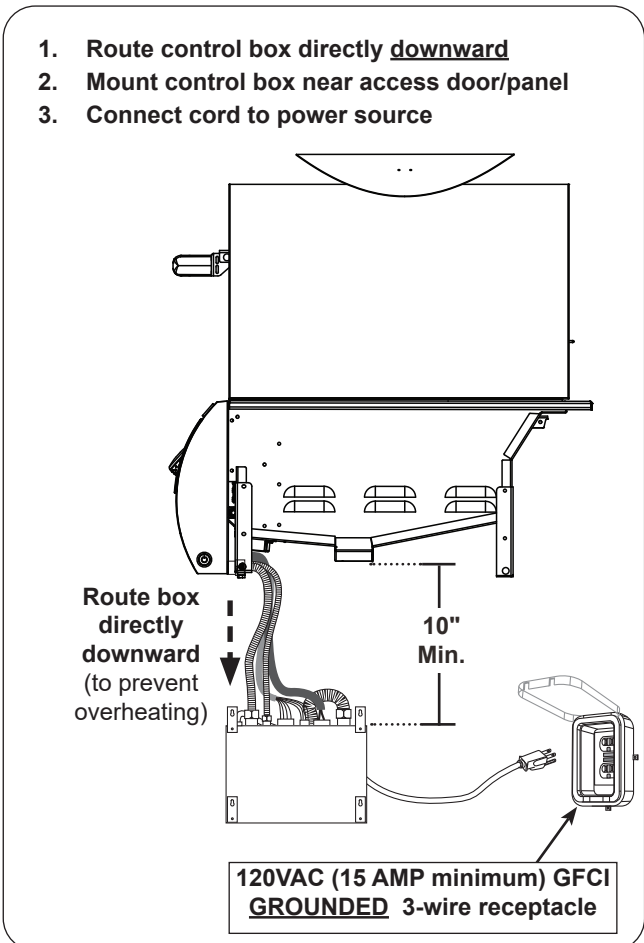

Fig. 27-1 Control box installation - overview
1. Route the control box below the control panel and directly downward. This will prevent overheating. **DO NOT** route the connections below the unit. See Fig. 27-1.
- located at least **10"** below the bottom of the unit (see Fig. 27-1).
3. Connect the power cord to a **120VAC (15 AMP minimum) GFCI GROUNDED 3-wire receptacle** (see Fig. 27-1). The GFCI receptacle must be a WEATHER-PROOF IN-USE COVERED RECEPTACLE.